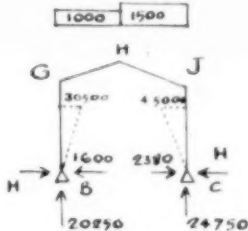
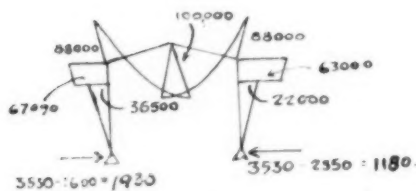

Fig. 33.
Fig. 34.
(c) Frame B-C.—This frame is loaded by the external forces and by the internal forces of frames A-B and C-D at the cuts (Fig. 33). The free moment at the middle at point H is 202,500 ft.-lb.(3) Taking as a first approximation the maximum positive moment to be half the free moment, that is  $\frac{1}{2} \times 202,500 =$  say, 100,000 ft.-lb., the moment-diagram is as shown in Fig. 34 and